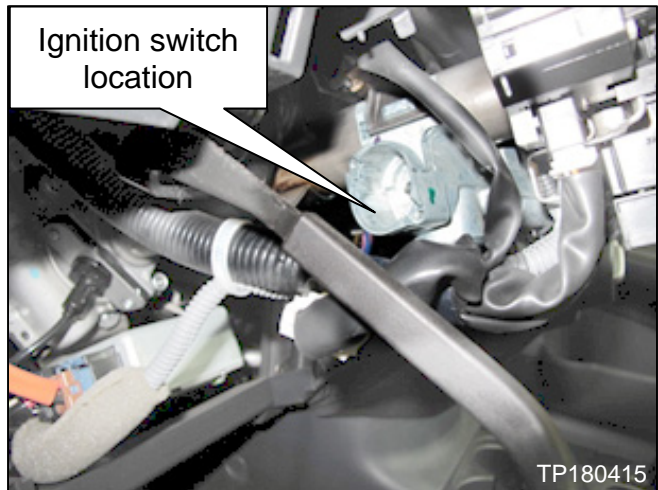

Figure 18
- Figure 18 shows ignition switch already removed.